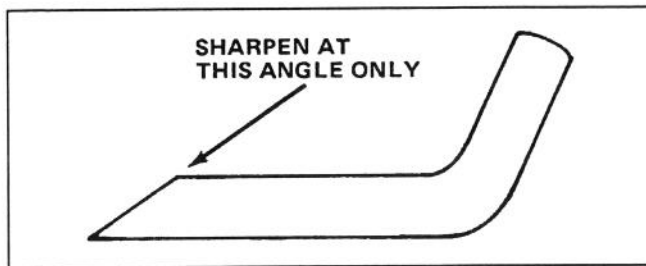

Figure 25
6. SHARPENING BLADE—Using a file, sharpen top side of blade (side facing top of mower housing) and maintain original cutting angle (Fig. 25). The blade remains balanced if the same amount of material is removed from both cutting edges.